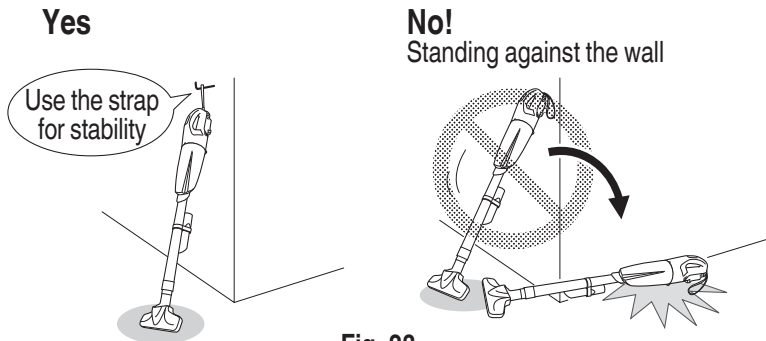

Fig. 23
- Do not stand the appliance against a wall without using the strap to fix it in place. (Fig. 23)